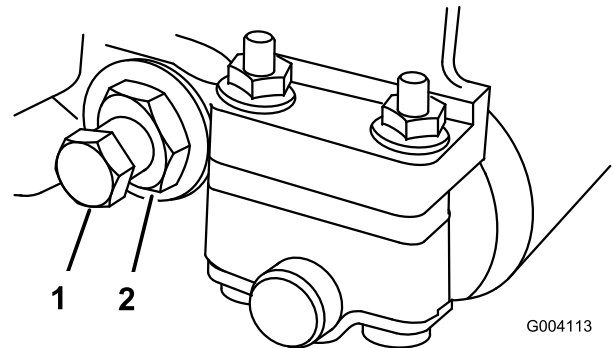

Figure 61
2. Back out the spring tension nut, until the washer is no longer tensioned against the bedbar (Figure 61).
3. On each side of the machine, loosen the jam nut securing the bedbar bolt (Figure 61).